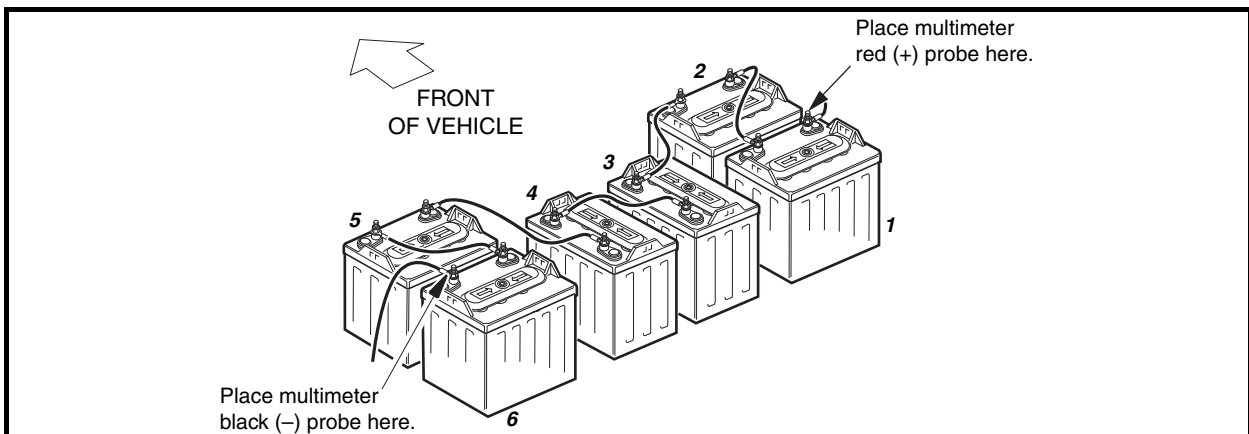

Figure 7-13 Turf 1 and Carryall 1 Battery Configuration
- 4.2. **Turf 1 and Carryall 1:** With a multimeter set to 200 volts DC, measure the voltage of the battery pack between the positive (+) post of battery no. 1 and the negative (–) post of battery no. 6 (**Figure 7-13, Page 7-17**).